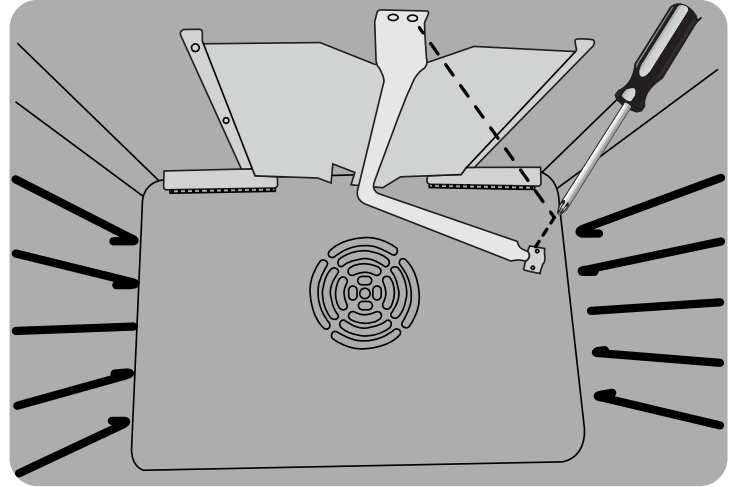

Figure 16
- 10** Remove the upper burner screw. Remove the burner from its connection against the back wall of the oven (see Figure 16). Be careful not to scratch or damage the connection wire that will remain connected throughout this procedure.